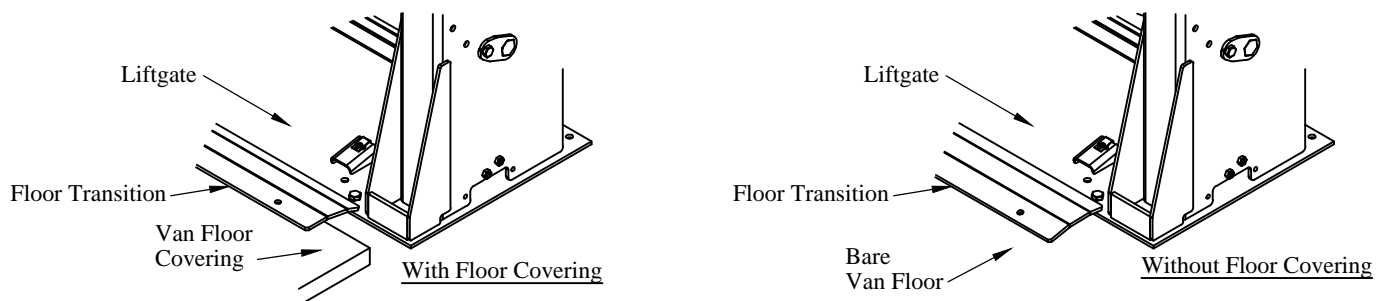

Figure 19: Floor transition.
Note: Follow the *Tommy Gate Recommended Electrical Wiring Guidelines* and wiring diagram (Figure 19) in the following steps.
- 13. Connect** the circuit breaker and battery as outlined in the *Tommy Gate Recommended Electrical Wiring Guidelines* and wiring diagram (Figure 19).
- 1. Position** the floor transition with one side on the liftgate and the other side on the van floor (Figure 19).